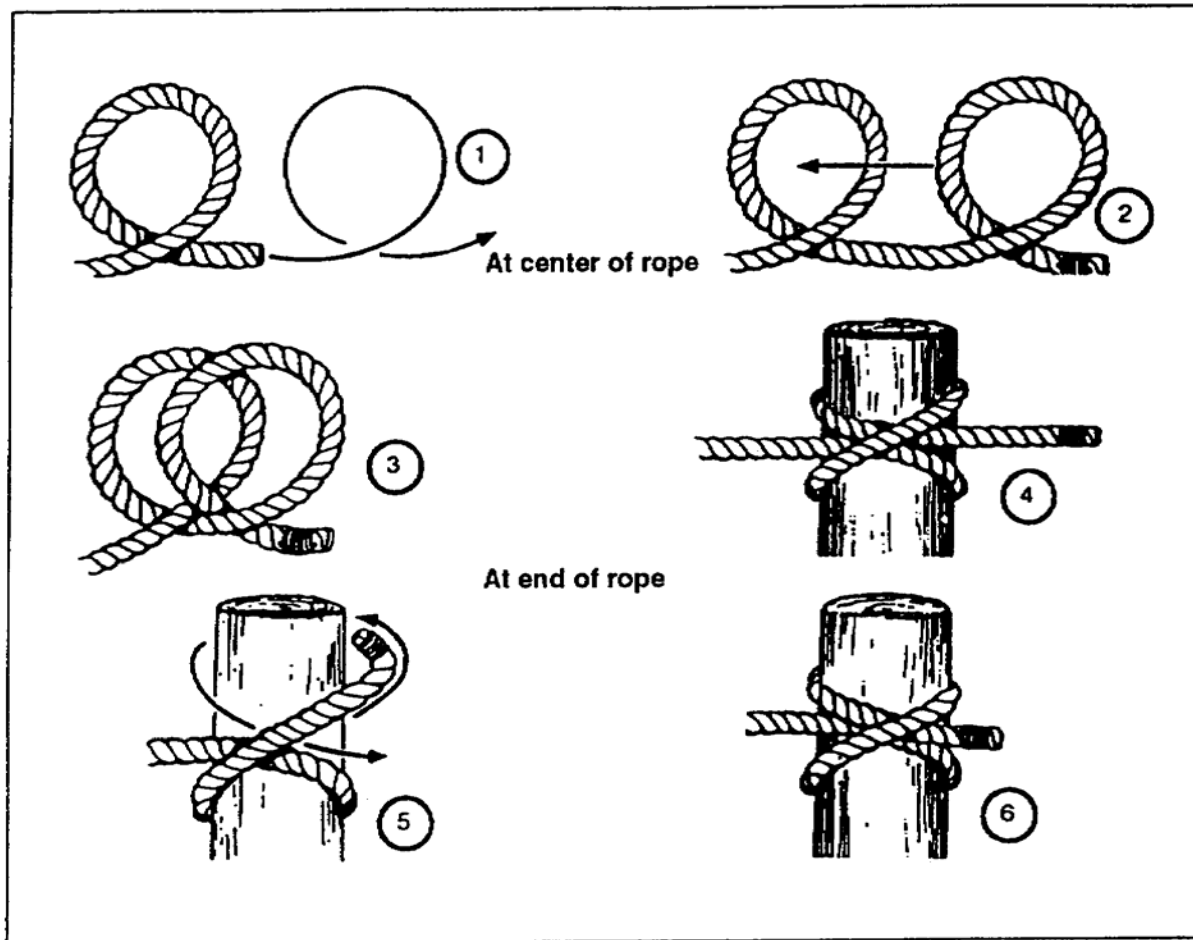

Figure 4-27. Clove hitch
f. Clove Hitch. A clove hitch (Figure 4-27) is one of the most widely used knots. You can use it to fasten a rope to a timber, pipe, or post. You can also use it to make other knots. This knot puts very little strain on the fibers when the rope is put around an object in one continuous direction. You can tie a clove hitch at any point in a rope. If there is not constant tension on the rope, another loop (round of the rope around the object and under the center of the clove hitch) will permit a tightening and slackening motion of the rope.